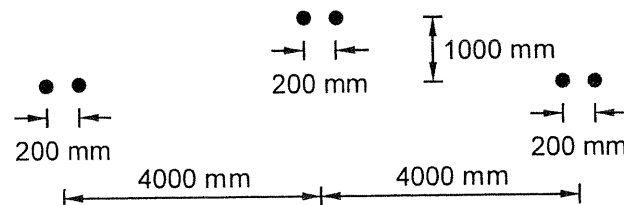

Figure 2: Two conductor bundle geometry
- (b) The line in (a) above is to be uprated by adding an additional conductor, identical to the existing ones, to each phase, as shown in Figure 2. For this geometry, determine the inductance, capacitance and resistance per phase for the line. (8)